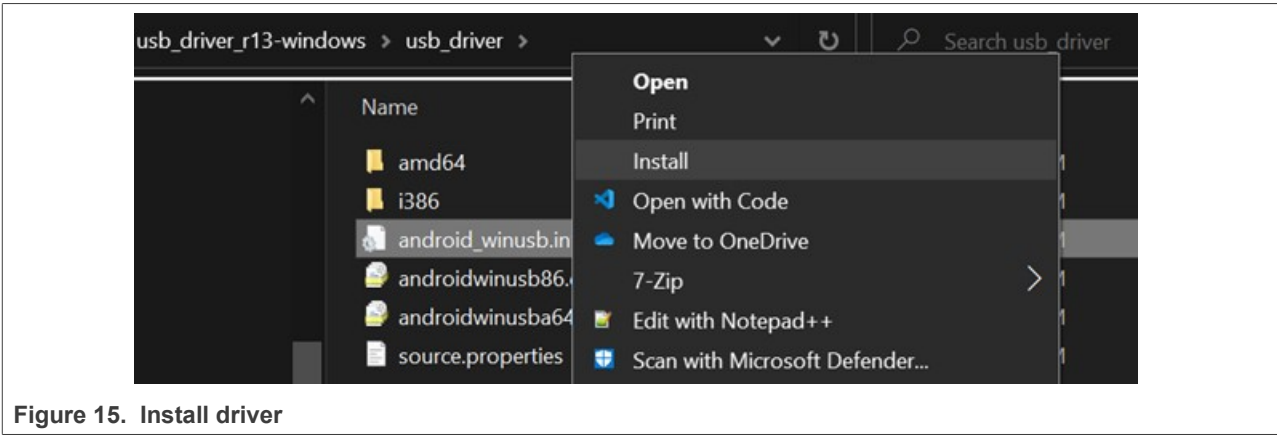

Figure 15. Install driver
3. Extract all and right-click to "android\_winusb.inf" and press "Install" (see Figure 15).